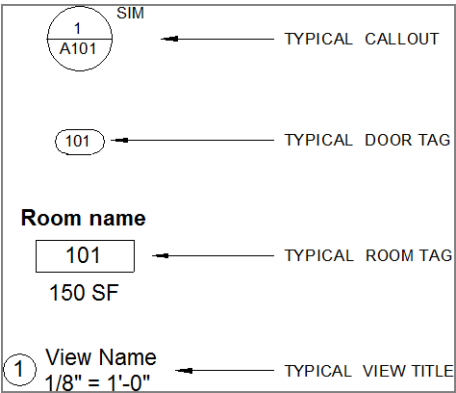

FIGURE 11.50: Adding descriptive text
4. Add the following notes to the rest of the symbols (see Figure 11.50):